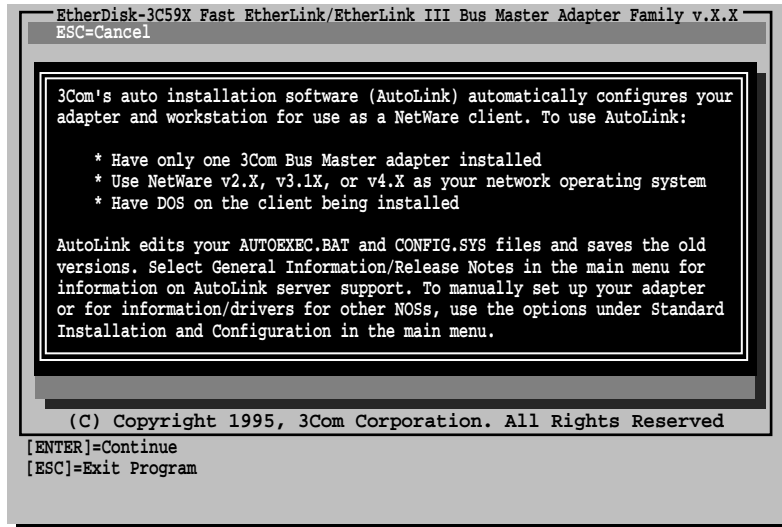

Figure 3-2 Auto Installation Screen
- 6 When the Auto Installation screen appears, as shown in Figure 3-2, press [Enter].